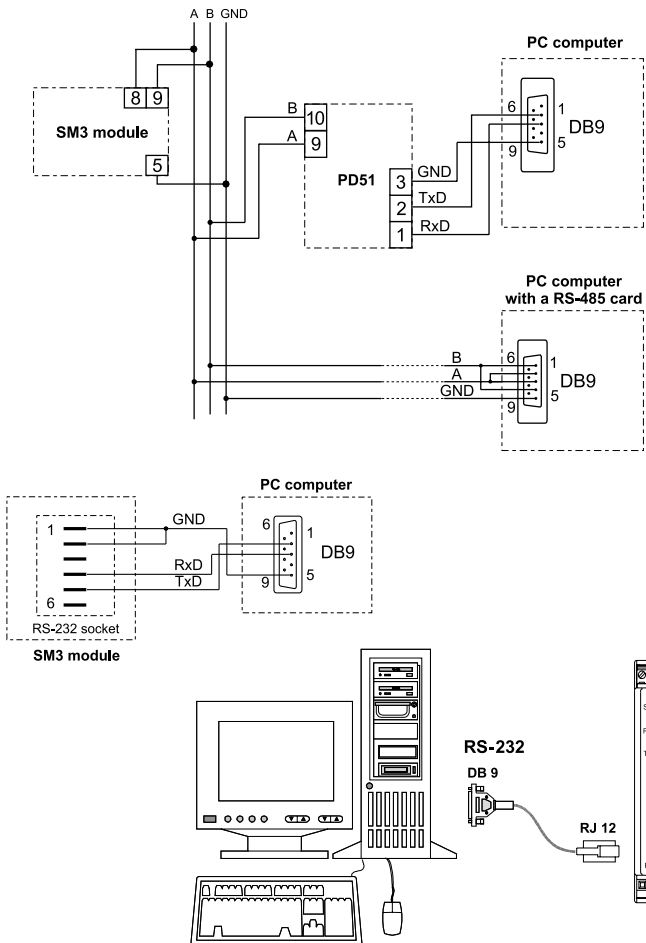

Fig. 5. Connection way of RS-485 and RS-232 interfaces
- The RS-232 socket serves only to connect devices (Fig. 5) working with the MODBUS Protocol. Place a hole plug in the RS-232 module socket if the socket is not used.
The RS-485 standard allows the direct connection to 32 devices on a single serial link of 1200 m long. To connect a higher number of devices it is necessary to use additional intermediary-separating devices (e.g. PD51 converter/repeater). The manner to connect the interface is given in the module user's manual (fig. 5). To obtain a correct transmission it is necessary to connect lines A and B in parallel with their equivalents in other devices. The connection should be made by a shielded wire. The shield must be connected to the protective terminal in a single point. The GND line serves to the additional protection of the interface line at long connections. One must connect it to the protective terminal (that is not necessary for the correct interface operation).
To obtain the connection with the PC computer through the RS-485 port, an RS-232/RS-485 interface converter is indispensable (e.g. a PD51 converter) or an RS-485 card. The marking of transmission lines for the card in the PC computer depends on the card producer. To realise the connection through the RS-232 port, the cable added to the module is sufficient. The manner of both port connection (RS-232 and RS-485) is presented on the Fig.5.